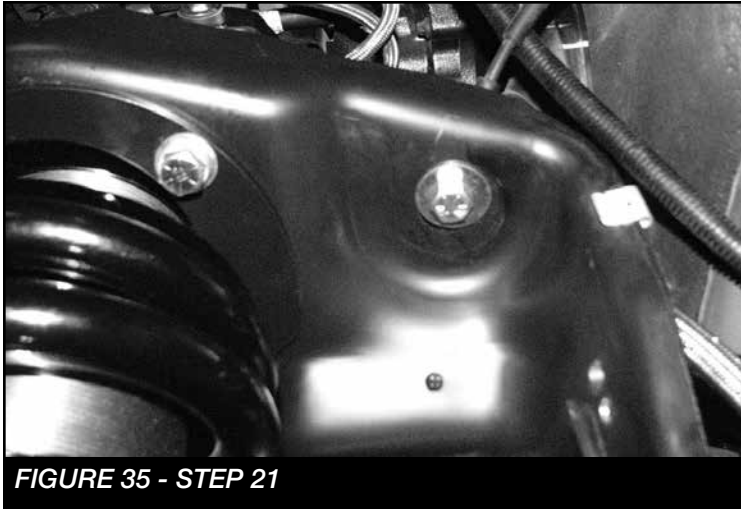

FIGURE 35 - STEP 21
21. Install the 7/16" x 1-1/4" bolt, 7/16" USS washers and nut through the ABS bracket and the hole where the factory shock was located. Torque to 83 ft-lbs. Next, Torque the 5/8" bolt to 179 ft-lbs. **SEE FIGURES 35**